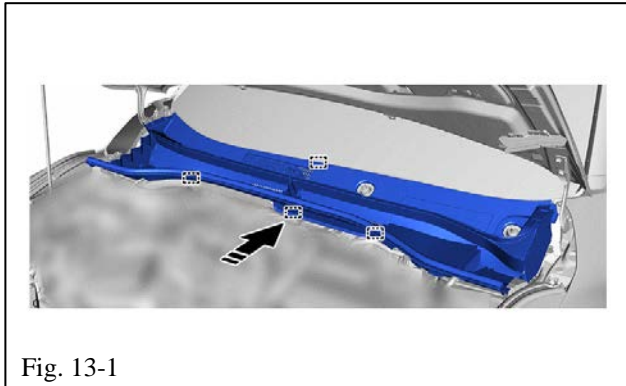

Fig. 13-1
- (a) Engage the guides (Fig. 13-1).